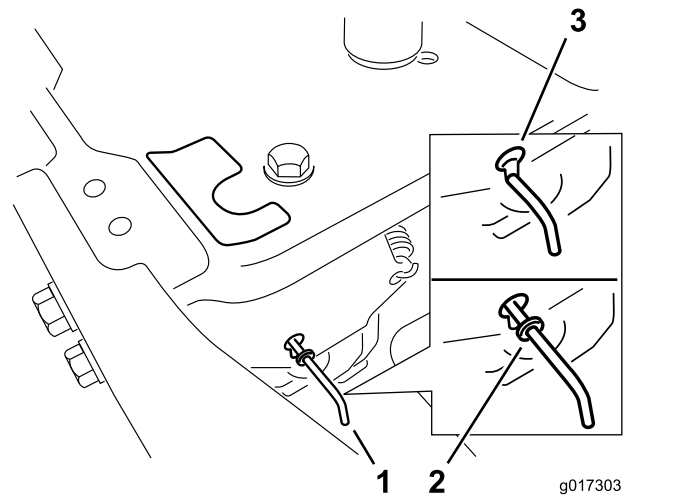

Figure 34
4. Move the bypass levers forward through the key hole and down to lock them in place (Figure 34).
Move the bypass levers rearward through the keyhole and down to lock them in place as shown in Figure 34.